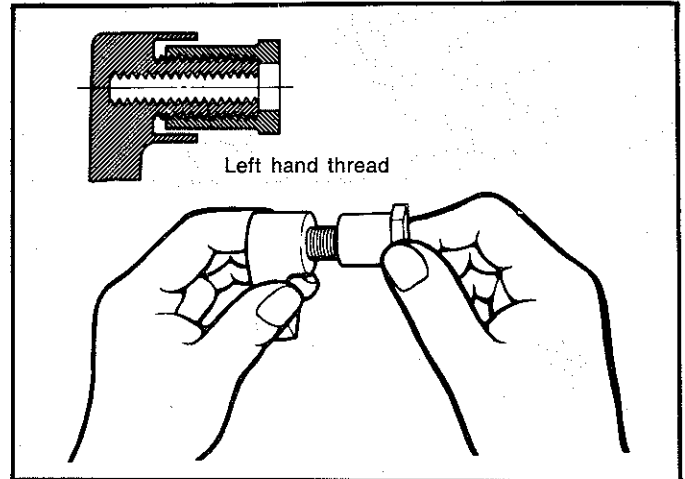

Fig. 16—Setting the tilt screw
- Place the column tube on the tilt bracket and insert the bolts. Screw the left hand thread tilt screw fully onto the tilt lever as shown in fig. 16. Back the screw off a half turn.